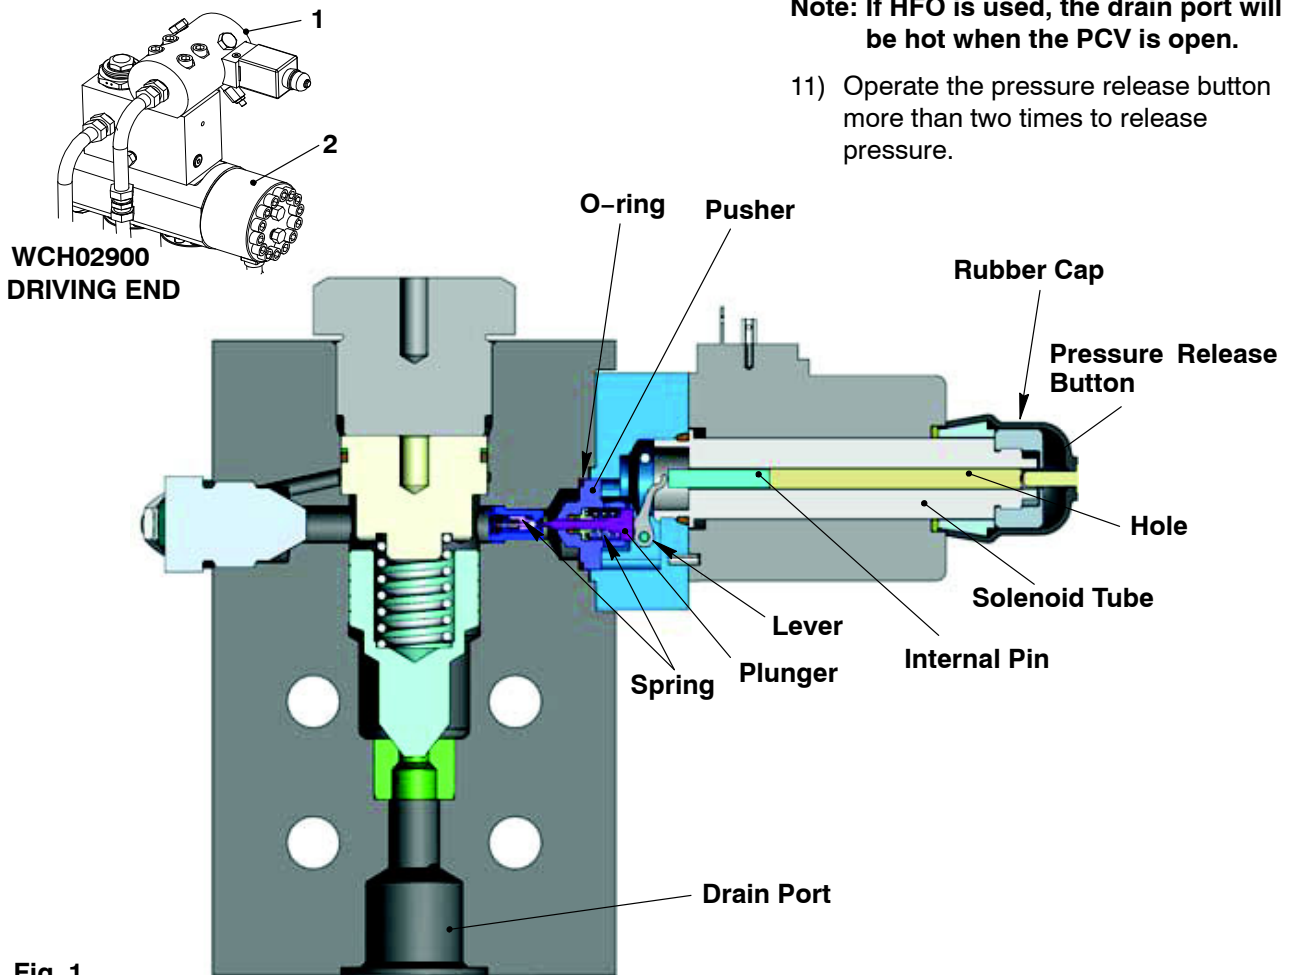

Fig. 1
- 6) Attach the fuel return pipe (4, Fig. 1) to the PCV (9).
- 7) Tighten the angle union (3).
- 8) Connect the electrical connection to the solenoid valve (1).
Note: It is not necessary to remove the Pressure control valve PCV (1, Fig. 1) from the fuel rail (2) to do this procedure.